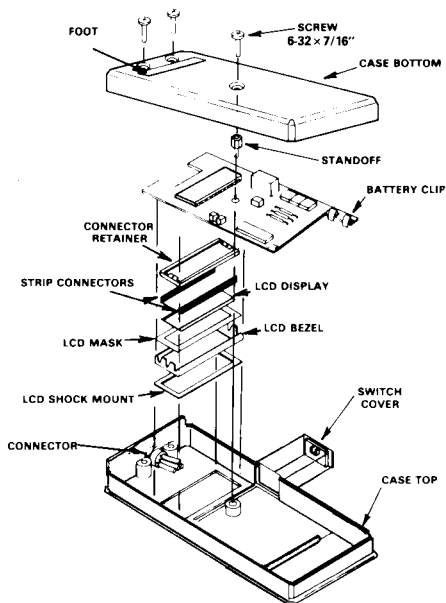

Figure 5-1. Exploded View
The instrument must be opened to replace the battery, to select three or four wire operation, or for calibration. Troubleshooting or parts replacement may require more complete disassembly (see Figure 5-1). The sequence below describes the basic procedure for disassembling the instrument.
5. The instrument may be reassembled by reversing the above procedure, using Figure 5-1 as a guide. When assembling the instrument, take special note of the following points: